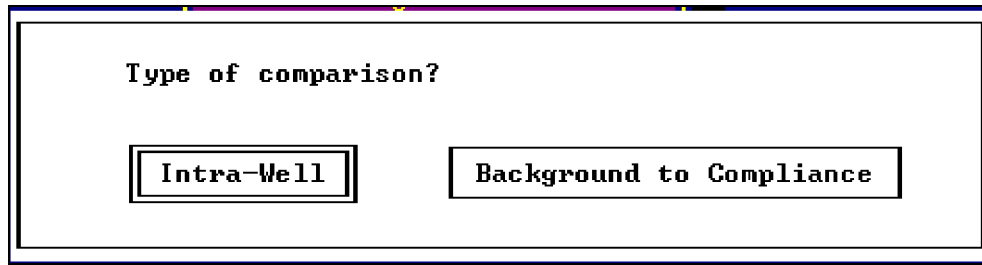

Figure 5-69. The Type of Comparison dialog.
- If you selected an Individual Well and did not select all the observations in the selected well the Type of Comparison dialog appears on your screen as shown in Figure 5-69.